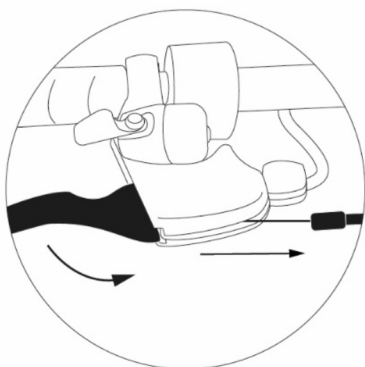

Figure 16 - Disc 3 brake wire installation
5. As you pull the brake cable sheath, follow the closing movement of the lever, ensuring that the mechanical stop engages in its seat (**See Figure 16 - Disc 3 brake wire installation**);